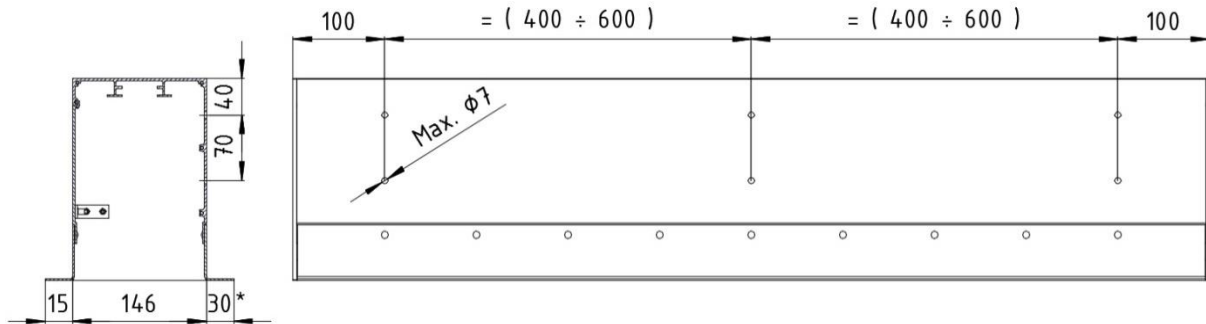

Fig. 14. Scheme of preparation of the installation holes in the under-plaster cassette. * - variable dimension, usually 30 mm.
- Under-plaster cassette is delivered without installation holes. They have to be done individually according to the below guidelines (Fig. 14). At least 3 openings are required for each 1m of length of the cassette.